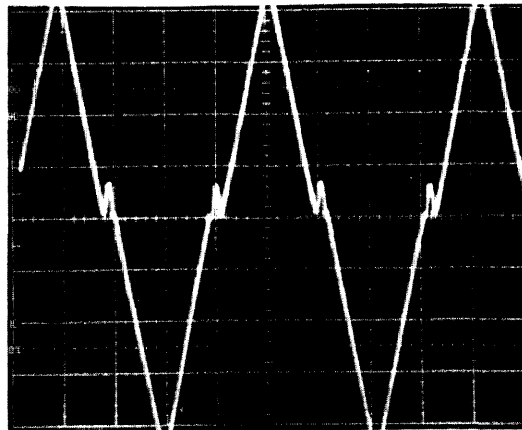

Figure 6.13
6.8.8 Adjust I-Pot to set the positive excursion that rises just above the X-axis between 0.2-0.4 V from the reference. See Figure 6.13.